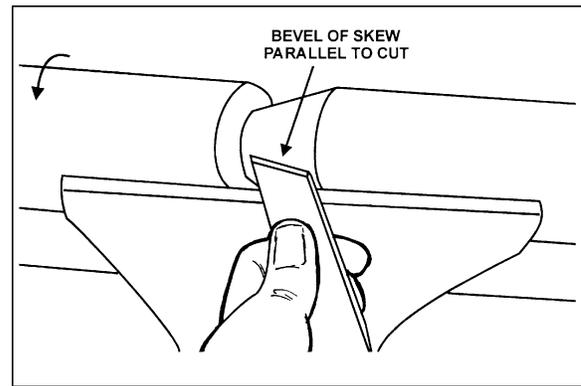

Figure 42
4. With the bevel parallel to the right side of the cut, raise the handle and push the tool in to the desired depth, as shown in Figure 42.